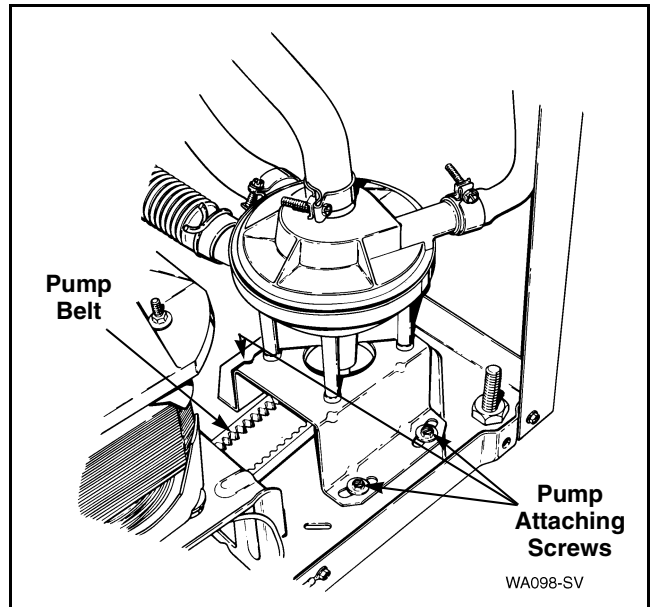

Figure 17
- Loosen two front mounting screws and one rear mounting screw holding pump and bracket to washer base. Refer to *Figure 17*. Pivot entire assembly toward motor to loosen belt tension.